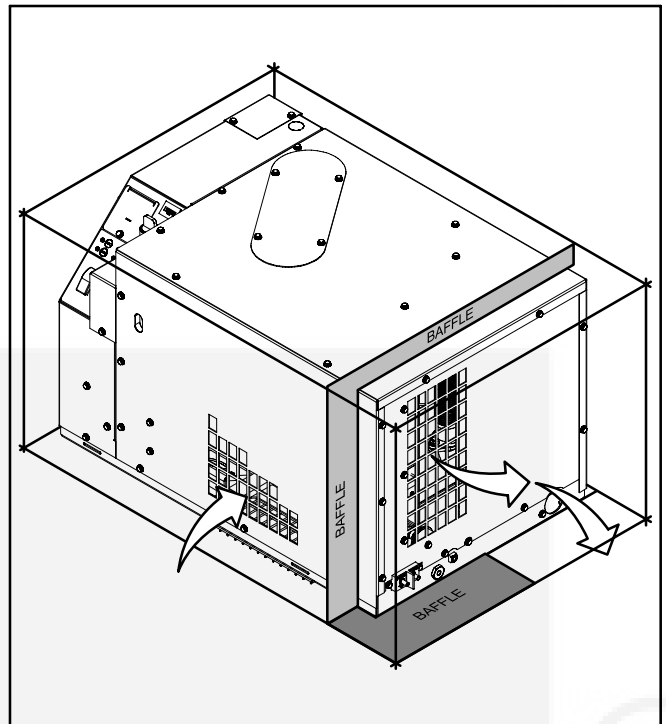

FIGURE 2. COMPARTMENT AIR BAFFLE TO PREVENT RECIRCULATION OF HOT AIR
5. When the genset is installed in a compartment that surrounds the top and sides (Figure 2), provide non-flammable baffles (UL 94 HBF foam or better) to prevent hot side-discharge air from recirculating back into the front air inlet grille. The baffles must extend all the way across the top, down the front and half way back below the side air discharge grille. They must close off the gap between the genset and enclosure. See HOT AIR RECIRCULATION TEST (Page 17).
7. *If the air inlet for the front grille is in the compartment door, it must allow the air to flow straight into each opening of the front inlet air grille without obstruction (Figure 2).*
9. The compartment outlet for side-discharge air must be at least 4 inches (102 mm) wide and extend across the back half of the floor (Figure 2).